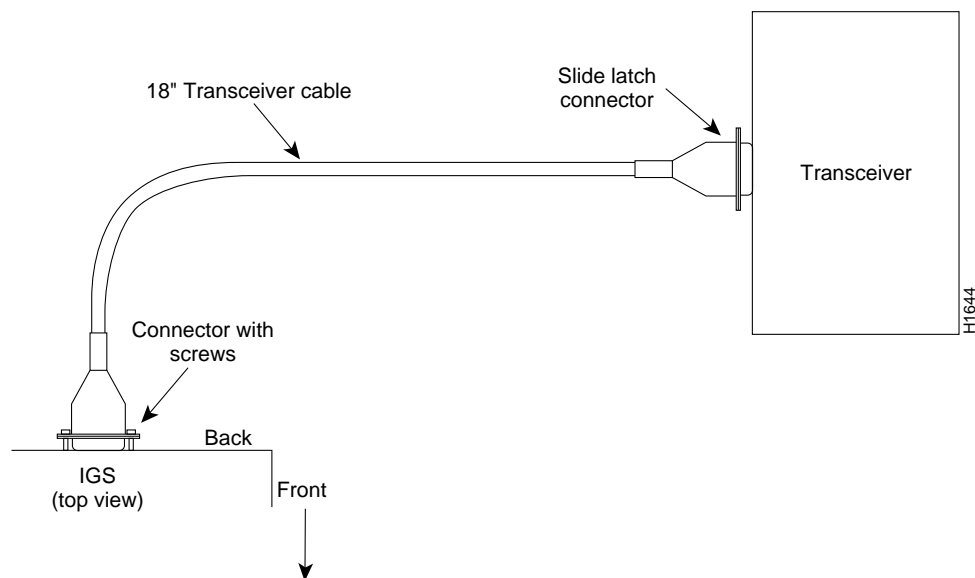

Figure 1-1 Transceiver Cable Connections
- The transceiver cable can be used by itself to connect the IGS directly to the Media Access Unit (MAU) or transceiver as shown in Figure 1-1.
Figure 1-1 shows the transceiver cable connecting the IGS directly to the Media Access Unit (MAU) or transceiver.